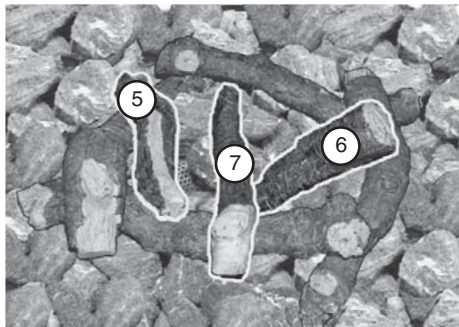

Fig. 16-3
4. Lay the remaining logs across the already positioned logs in an attractive pattern (see Fig. 16-3).